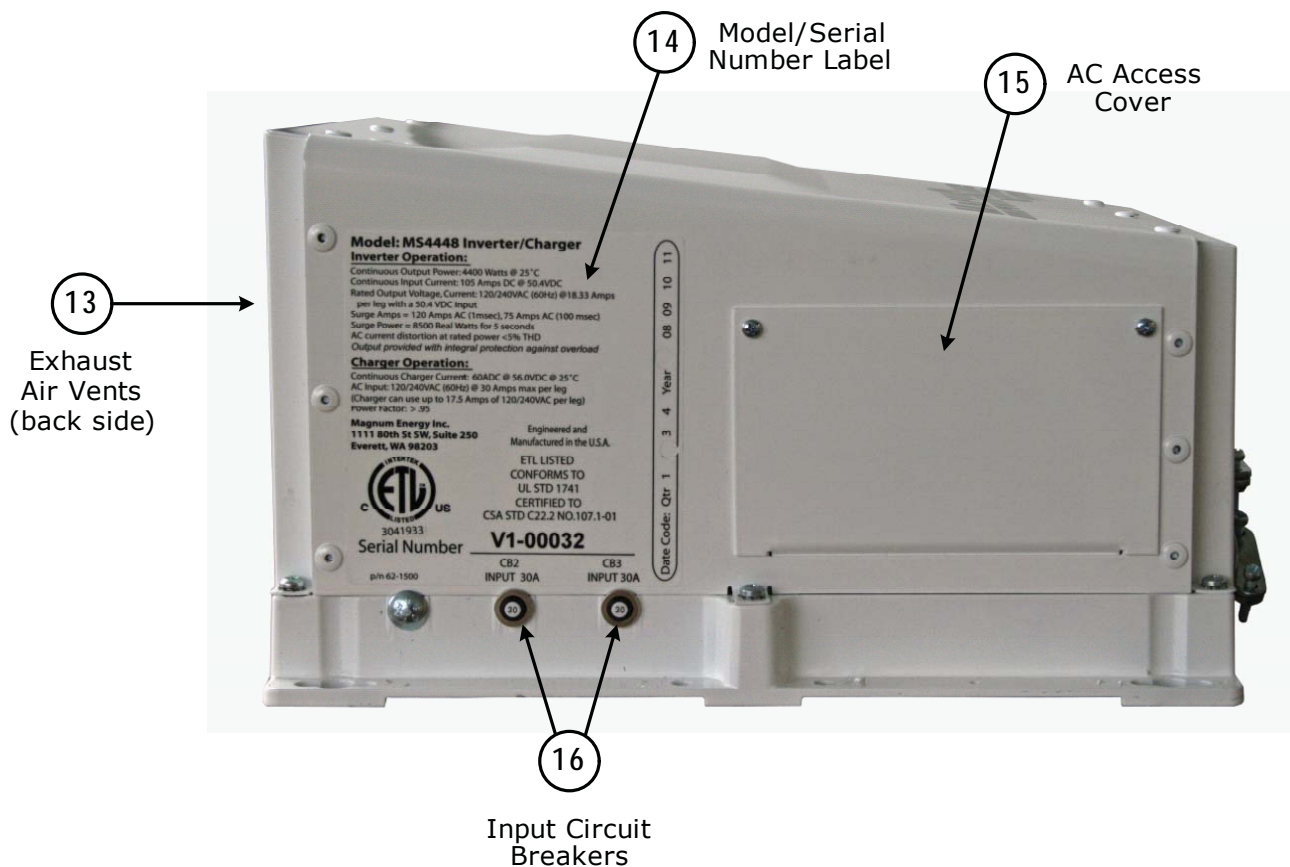

Figure 1-3, Left Side Features
The left side of the MS-AE Series is equipped with the following features (refer to figure 1-3):
**Ventilation** - In order for the inverter to provide full output power and avoid overtemperature fault conditions; do not cover or block the inverters ventilation openings or install this inverter in an area with limited airflow. The inverter uses two internal fans to provide forced air cooling, these fans pull in air through the intake vents (see item 9 in figure 1-2) and blow out air through the exhaust vents (see item 13 in figure 1-3). Allow at the minimum, an airspace clearance of 6" at the intake and exhaust vents and 3" everywhere else to provide adequate ventilation.